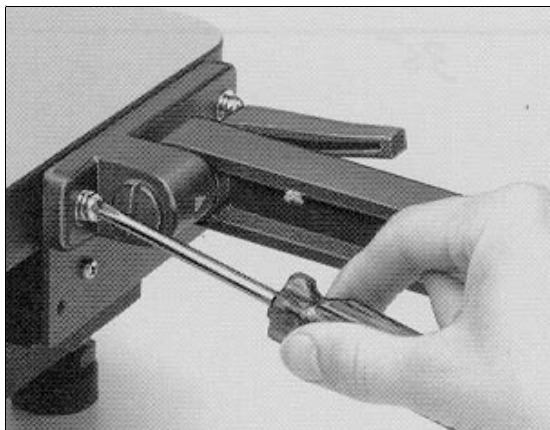

Figure 2-35. Tightening Lamp Arm Screws
b. Insert the screws into the top two holes in the metal plate, then tighten firmly (figure 2-35).